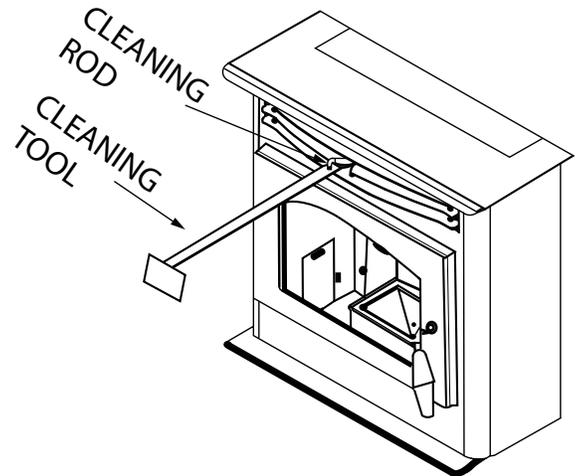

FIGURE 25
- Clean heat exchanger tubes (see “CLEANING” and Figure 25).
- Heat Exchange Tubes** – Your Breckwell stove is designed with a built-in heat exchange tube cleaner. This should be used every two or three days to remove accumulated ash on the tubes, which reduces heat transfer on the SP22. Insert the handle end (with hole) of the cleaning tool onto the cleaning rod (refer to figure 25). The cleaner rod is located in the grill above the stove door. Move the cleaner rod back and forth several times to clean the heat exchanger tubes. Be sure to leave tube cleaner at the rear of the stove.